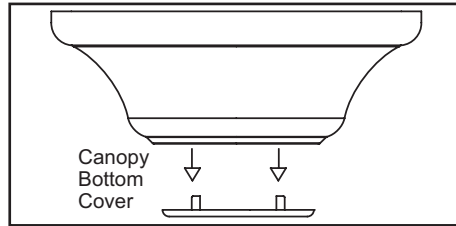

Figure 9
WHEN MOUNTING THE FAN ON A SLOPED CEILING, THE STANDARD BALL/DOWNROD MOUNTING METHOD MUST BE USED. THE MOUNTING PLATE MUST BE MOUNTED SO THAT THE SLOT OPENINGS ARE ON THE LOWER SIDE BY SLIDING THE MOUNTING PLATE FROM THE TOP DOWN. FOR A GREATER MOUNTING ANGLE, REMOVE THE DECORATIVE CANOPY BOTTOM COVER (FIGURE 9).
- Remove the decorative canopy bottom cover from the canopy by depressing the three studs (Figure 9).